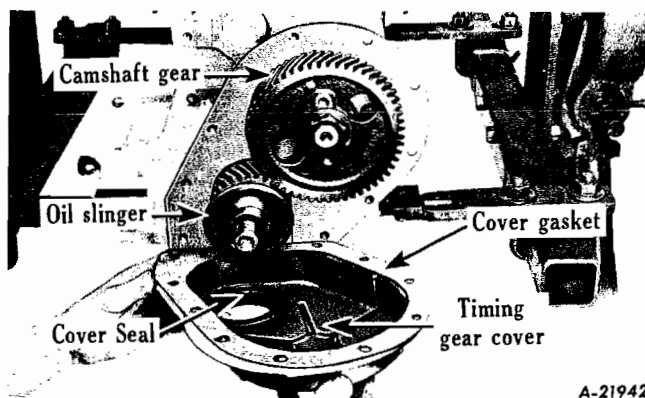

Fig. 23 - Gear case cover removed showing timing gear details.
2. Remove nuts and capscrews from engine gear case cover, remove gear case cover and gasket. Remove crankshaft oil slinger from end of shaft (Fig. 23).